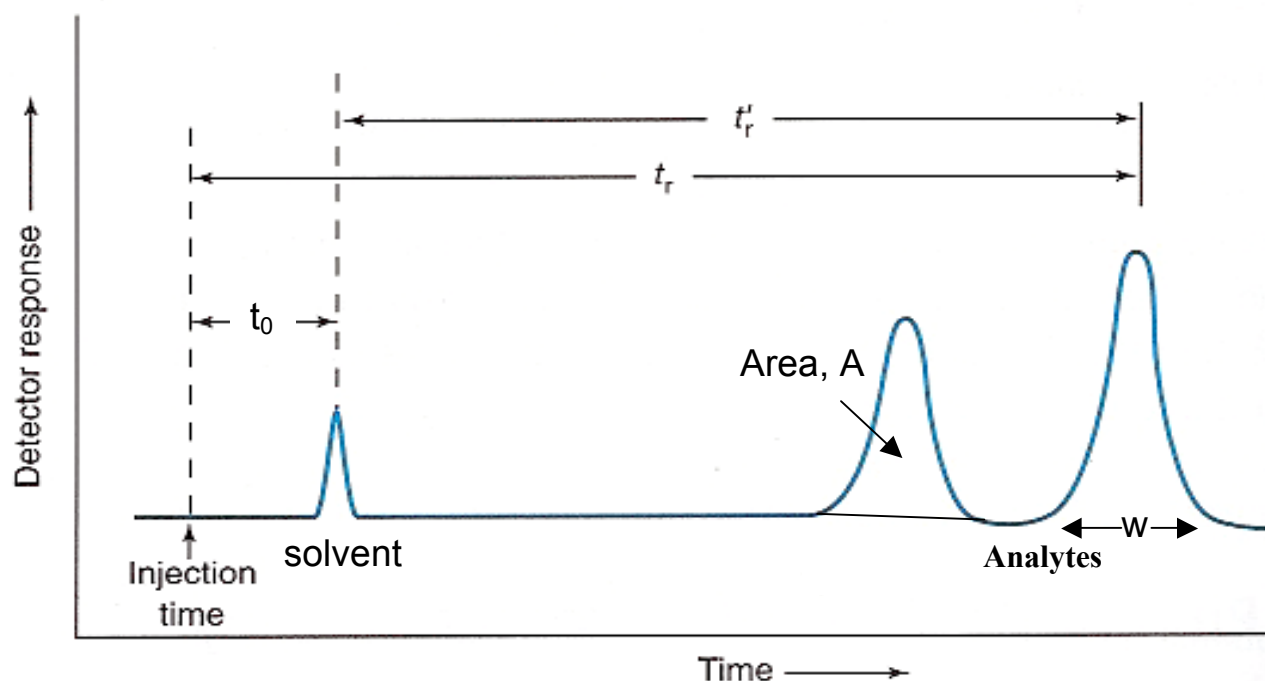

Figure 3: Typical chromatogram.
A typical chromatogram is illustrated in Figure 3. Important data that can be obtained from the chromatogram are the retention times (t_r), peak widths (w), and peak areas. Retention times can be used to identify compounds, as each compound will (hopefully) have a different affinity for the stationary phase and a different retention time. Peak widths determine the quality, or efficiency, of a separation. Narrow peaks are advantageous because this allows the separation of compounds with similar retention times. The peak area can be used to determine the quantity or concentration of a given analyte in the mixture. Important figures of merit for a chromatographic separation are the retention factor (k), the selectivity (α), the resolution between peaks (R_s), and the plate number or efficiency (N):